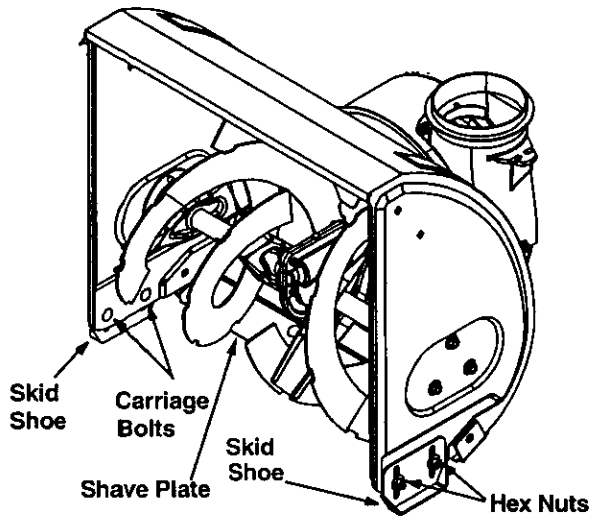

Figure 22
- To remove skid shoes, remove the four carriage bolts, cupped washers and hex nuts which attach them to the snow thrower. Reassemble new skid shoes with the four carriage bolts, cupped washers (cupped side goes against skid shoes) and hex nuts. See Figure 22.
- To remove shave plate, remove the carriage bolts, cupped washers and hex nuts which attach it to the snow thrower housing. See Figure 22. Reassemble new shave plate, making sure heads of carriage bolts are to the inside of housing. Tighten securely.